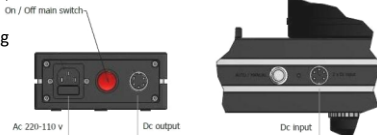

fig.5
Connect the power supply chassis to the Delta Audio turntable chassis with the umbilical cable which is provided, as shown in the fig.5 below.
1. The turntable is ready to operate after turning ON the main switch at the back side of the transformer, as shown in the fig.5